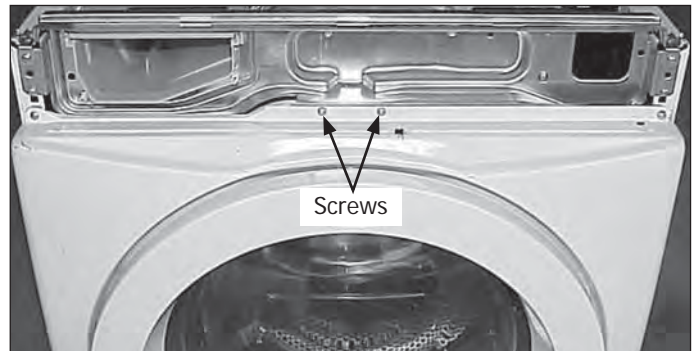

Figure 4-29.
2. Release the bellows from the front panel and remove the (2) screws holding the door safety switch assembly to the front panel. (See Figure 4-29)